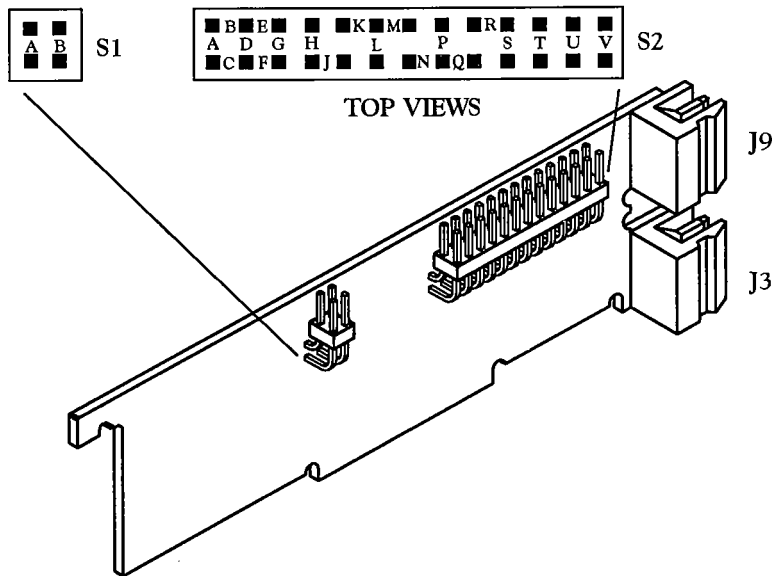
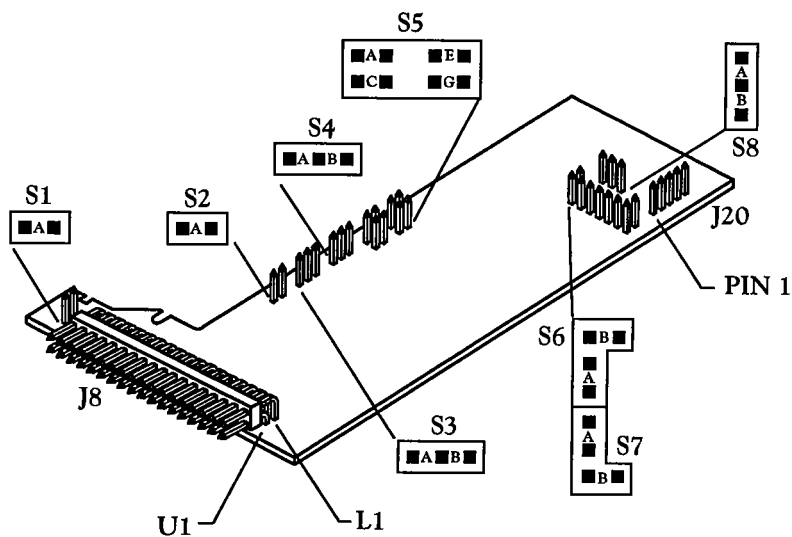

Figure 5-6. Signal Input Board
Figure 5-8. BCD Option Board
Figures 5-6 through 5-12 show the layout of the seven (7) printed circuit boards with respective jumper blocks, where applicable, used in the meter. Figures 5-8 through 5-12 show the optional boards.